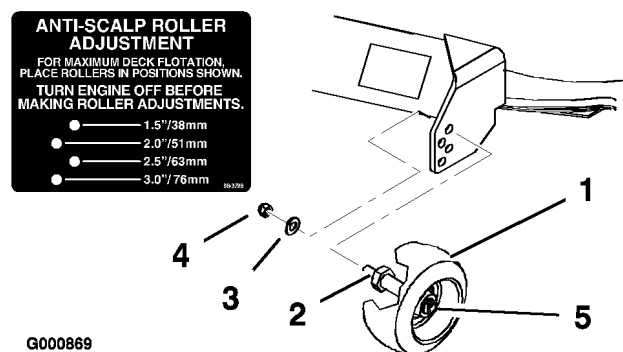

Figure 14
- After adjusting the height-of-cut, remove the nut and washer while holding the stud with a wrench (Figure 14).
Note: Do not remove the wheel nut and washer (Figure 14).
- Select a hole so that the gage wheel is positioned to the nearest corresponding height-of-cut desired (Figure 14).
- Install the stud nut and washer (Figure 14).